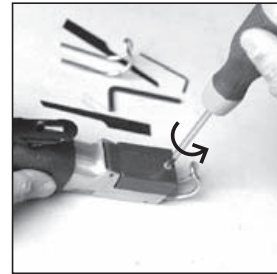

Figure 1
- (1) Release the screw (Part #41) with a screwdriver (not provided). (See Figure 1)